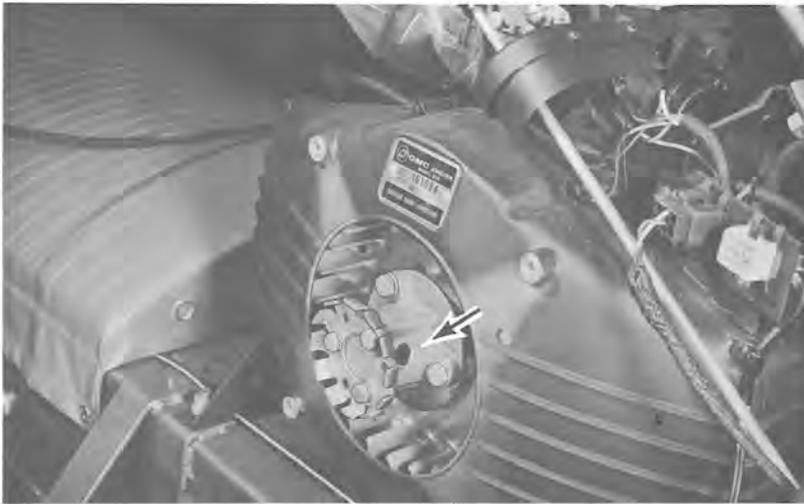
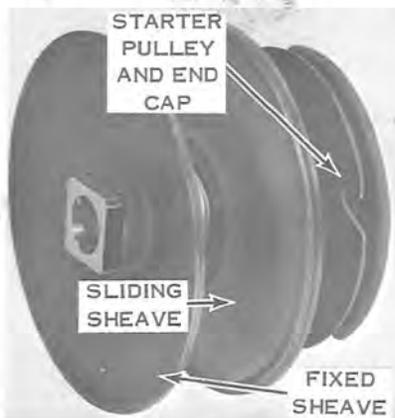

Figure 9-3
Figure 9-4
- d. Remove manual starter. Holding ratchet mount to prevent crankshaft from rotating (see Figure 9-3), remove primary sheave assembly by unscrewing from crankshaft (see Figure 9-4). NOTE: Right hand thread is used on PTO end of crankshaft.